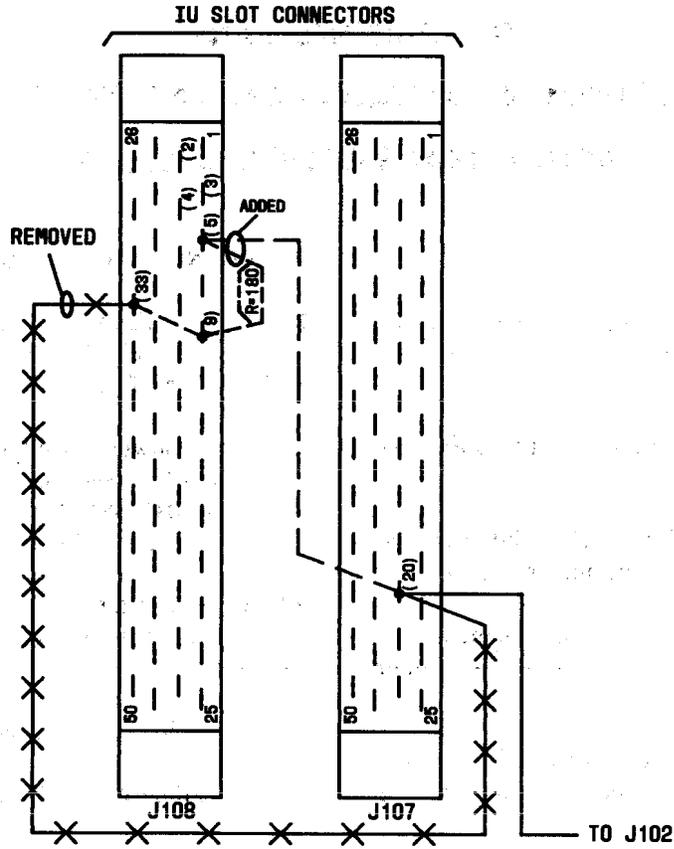

Fig. 2—Rear-Bay View of CN6482MV Loop Timing Modification
- (c) To correct the location of terminal 20 in Fig. 2 which shows the modification for loop timing.
2.003 On Page 25, change Fig. 2 according to the figure on the back of this sheet to show the correct location of terminal 20.